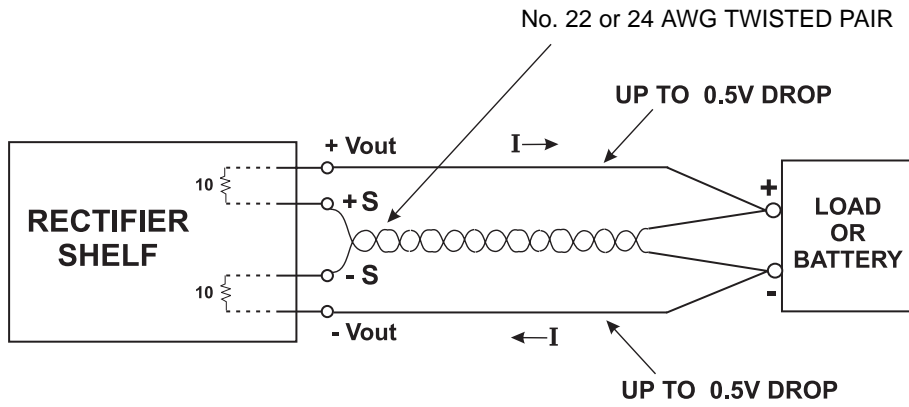

Figure 7. Remote Sensing Connection
- 13.6 Remote Sensing.** Remote sensing connections are made to pins 11 (+Sense) and 23 (-Sense) of the rectifier shelf J1 connector. Remote sensing is used to regulate the output voltage at the point of load, i.e., a battery or other load, by compensating for the voltage drop in the wires to the load. The +Sense lead must be connected to the + side of the load and the -Sense to the - side of the load. The sense leads should be a color-coded, twisted pair of AWG no. 22 or 24 copper wire. See Fig. 7.